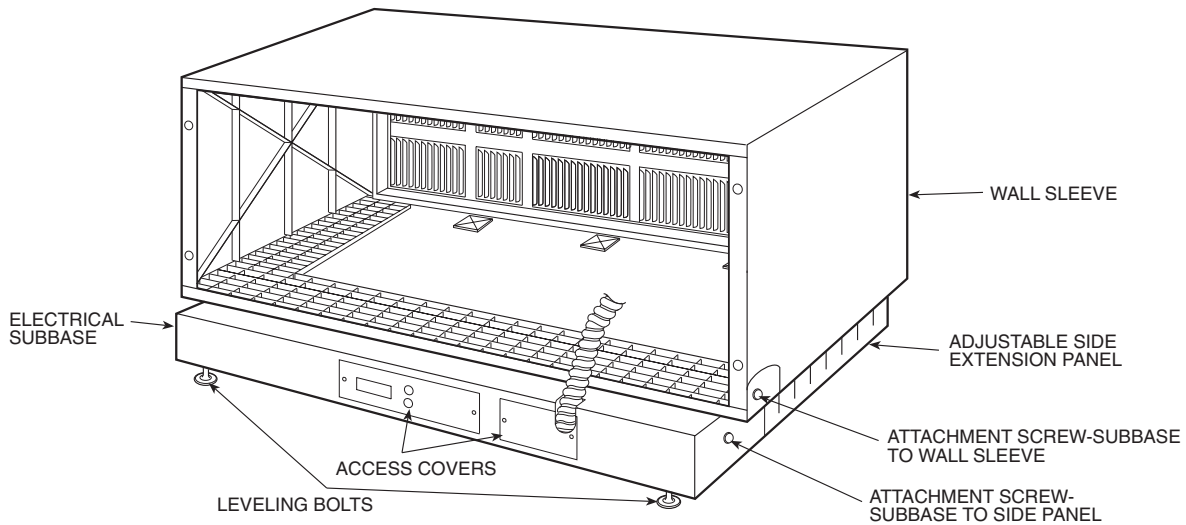

Fig. 6 — Hardwired Subbase Assembly Attached to Wall Sleeve
Step 11 — Attach subbase to wall sleeve. Subbase has side tabs for mounting the subbase to the sleeve. Be sure hole on side tab is lined up with predrilled locator hole on side of sleeve. Once holes are aligned, attach subbase to sleeve with one (1) black screw on each side. *Do not overtighten.* See Fig. 6.
Step 22 — Level subbase flush with floor by adjusting leveling bolts beneath each end of subbase. See Fig. 6.